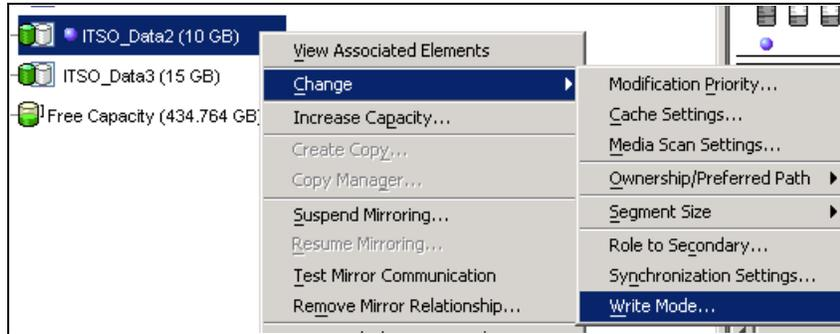

Figure 8-45 Changing write mode
1. Select a primary logical drive in the Subsystem Management window logical view, then select either the **Logical Drive** → **Remote Mirroring** → **Change** → **Write Mode** pull-down menu option or **Change** → **Write Mode** from the right-mouse pop-up menu (Figure 8-45).